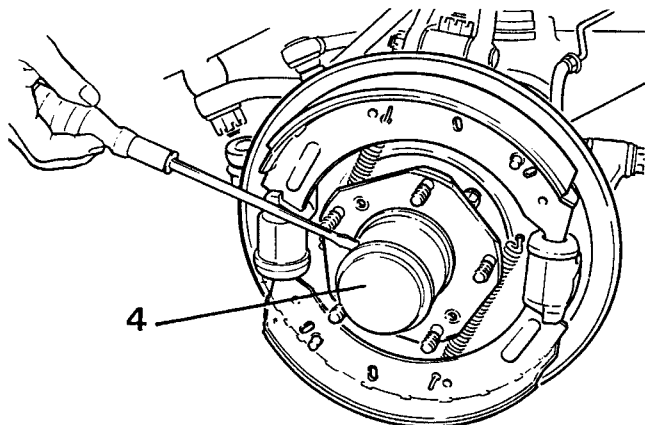

Figure 1
4. Prise out the hub cap. See figure 1.